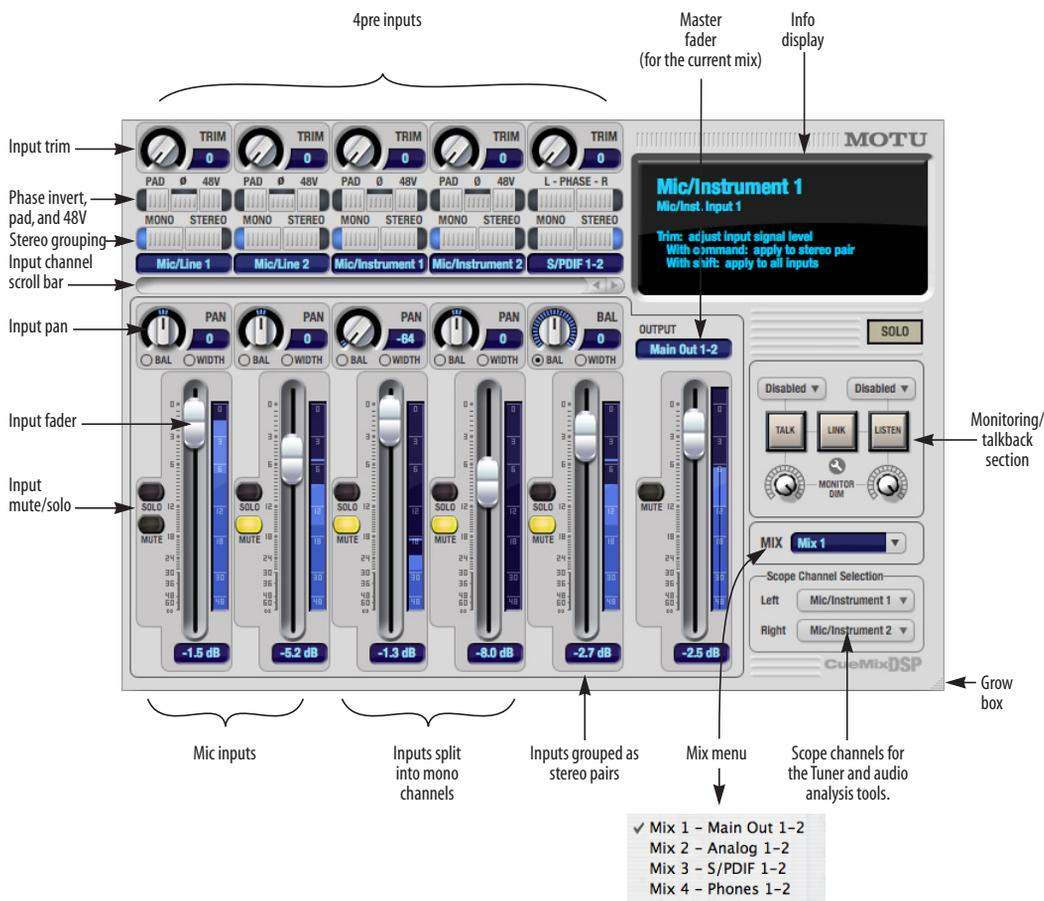

Figure 9-1: CueMix FX is a virtual mixer that gives you control over the 4pre's on-board mixing features.
CueMix FX displays one mix at a time. To select which mix you are viewing, choose it from the mix menu (Figure 9-1). Click the mix name to change it. The mix output pair appears above the mix master fader (Figure 9-1).
To view more input faders at once, drag the grow box (Figure 9-1) to the right.
To view a mix, choose it from the *Mix* menu (Figure 9-1). The menu shows all mixes by name, followed by the audio interface's output pair that it corresponds to.
The master fader (Figure 9-1) controls the overall level of the mix (its volume on its stereo output). Use the individual input faders to the left to control individual input levels.
The mix mute button (Figure 9-1) disables (silences) the mix.
The *Inputs* section (Figure 9-1) gives you access to individual 4pre inputs (or input pairs). Unmute the input and bring up its fader to hear the input on the current mix's output. Mute, solo, and pan are also provided for each input channel.
The *Phase* button (Figure 9-1) inverts the phase of the input signal. For stereo pairs, you can invert the phase for the left and right channels independently. For the mic/instrument/line channels, click the phase button ( $\emptyset$ ) repeatedly to cycle among two states for mono channels (on or off) and four states for stereo grouped channels (no inversion, left only, both, or right only).
Click the *Mono* button (Figure 9-1) if you would like an input to be treated as a mono channel. If you would like to work with it as one channel of a linked stereo pair, click the *Stereo* button. Inputs are grouped in odd/even pairs (Mic/instrument 1-2, Mic/Line 1-2, etc.) Stereo pairs appear as a single channel strip in the CueMix FX mixer.
The pan knob (Figure 9-1) for each input pans the input across the mix's stereo outputs. If the input itself is grouped as a stereo pair, two forms of panning control are provided:
Use the input fader (Figure 9-1) to adjust the level for the input in the mix. Note that an input can have different level, pan, mute and solo settings for each mix. Input channel level meters are post-fader.
The *Scope channel selection* menus (Figure 9-1 on page 52) let you choose what input channels will be fed to the CueMix FX audio analysis (scoping) features. See “Devices menu” on page 57.
- 1 Select the source mix (Figure 9-1) and choose Copy from the Edit menu (or press control-C).